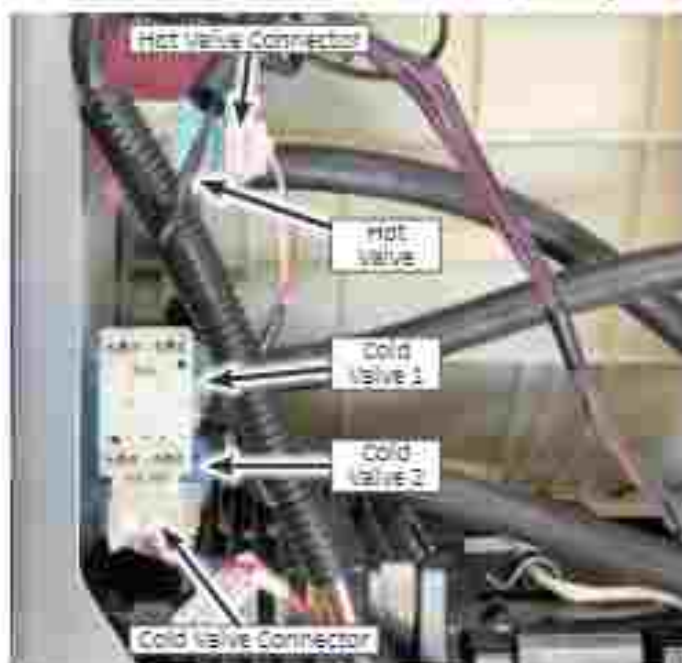

Figure 2
5. Disconnect the water inlet valve connector(s) (see Figure 2).
6. Using a T20 Torx driver, remove the screw(s) securing the valve(s) to the rear bracket (see Figure 2).